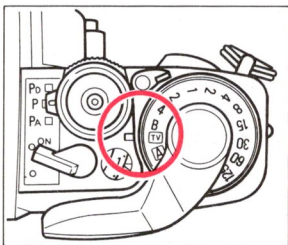

Fig. 54
2. Set the Shutter Speed Dial to "TV" (Fig. 54).